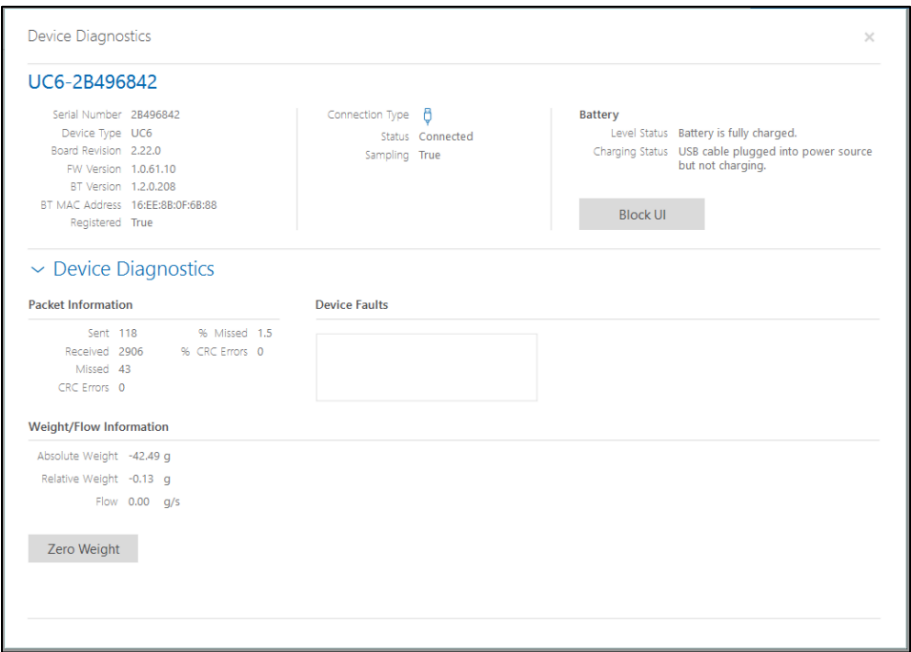

Figure 66: Urocap NXT – Device Diagnostics
- c) Click the **Urocap NXT** option, then click the **Run Diagnostics** button. The device diagnostics window will pop-up (Figure 66).